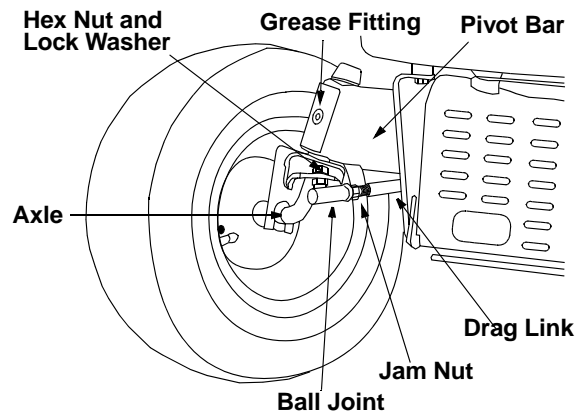

Figure 7
1. Loosen the jam nut on the drag link at the rear of the ball joint. See Figure 7.
2. Remove the hex nut and lock washer on top of the ball joint. See Figure 7.